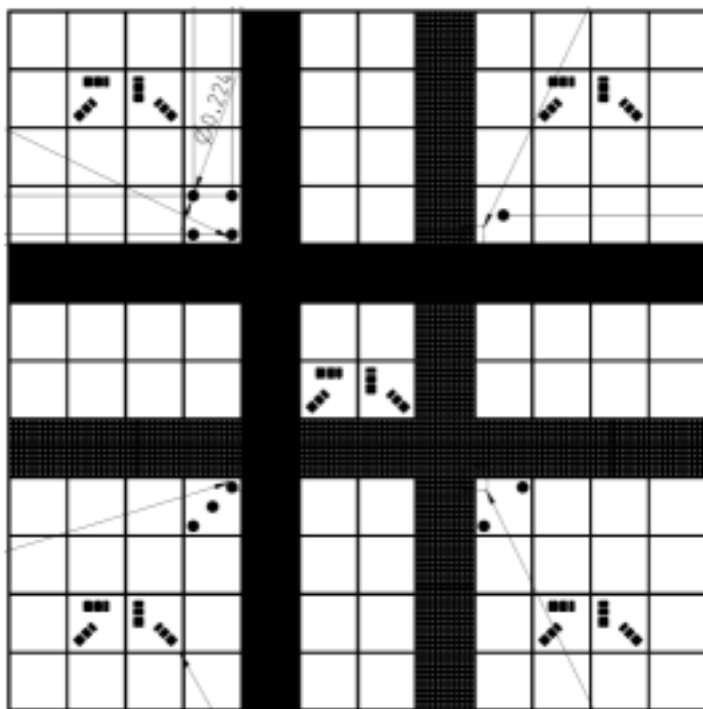

Fig. 46 Calibration objective
- Calibration objectives with other samples than shown in Fig. 46 shall not be used. The cap with the calibration sample can be obtained separately under SAP-No. 420639-9900-700.